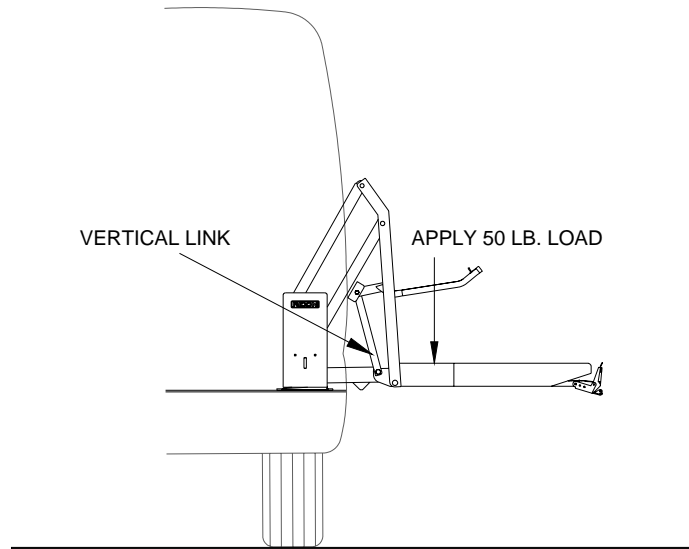

FIGURE 2-14: PRESSURE SWITCH TEST AT FLOOR LEVEL
- a. Refer to **Figure 2-14**. Deploy and lower platform to ground. Place a 23kg (50 lb.) load in center of platform and then raise platform to floor level. Press and hold STOW switch.